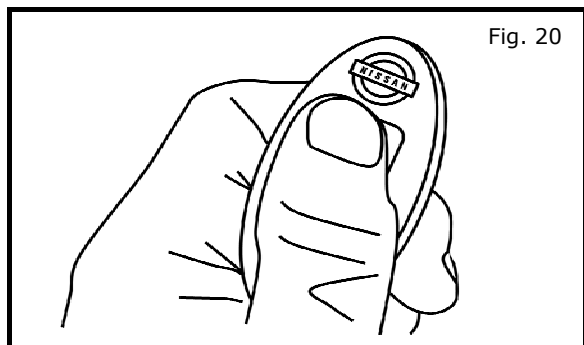

Fig. 20
- a) Press and hold the RES button within five (5) seconds of pressing the LOCK button until the turn signal lights turn ON, then release to confirm vehicle starts as shown in Fig. 20.